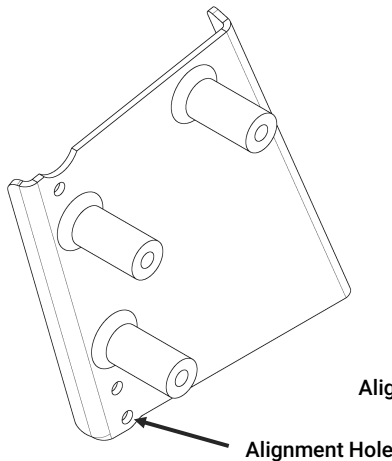
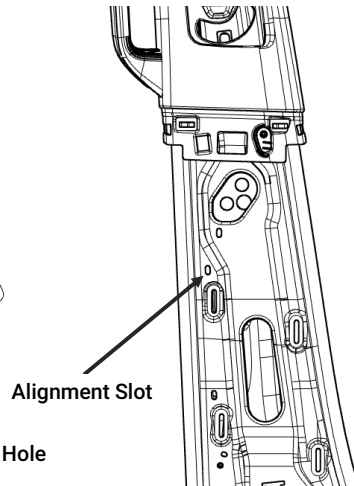

Figure 1a
Figure 1b
- B. (1) of the [3X162] self drilling screws is used to set the height of the bracket. Insert a screw through the lowest hole on the bracket (Fig 1a) and into the slot that the wire clip was removed from in Section III Step D (Fig 1b). The screw should be in the very bottom of the slot.